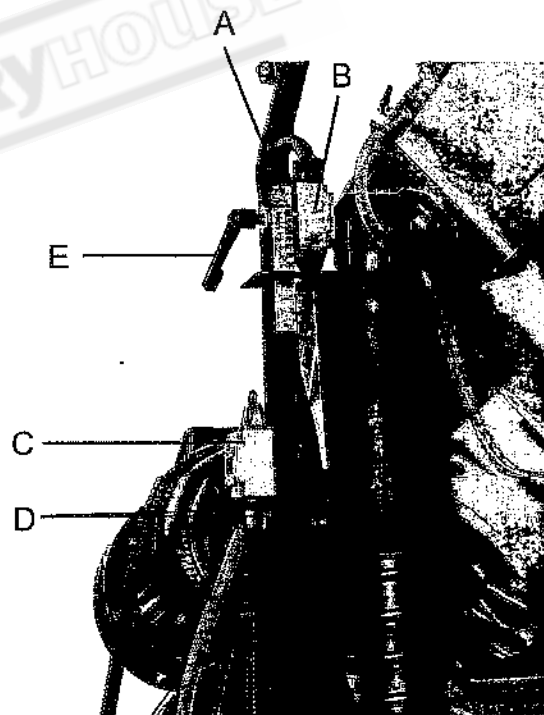
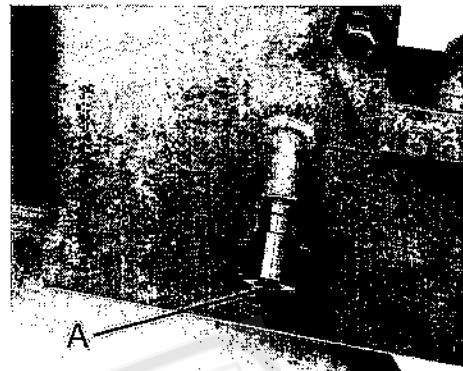

Fig. 12
Fig. 14
2. Release the limit switch (B - Fig. 12) by loosening the handle (E - Fig. 12).
3. According to the scale (A - Fig. 12) to set the desired measurement of the saw arm raising position.
4. Tighten the handle (E - Fig. 12).
5. If the saw does not stop automatically after a complete cut, the micro switch (C - Fig. 12) needs to be adjusted. Please refer to the section of by loosening the two screws (D - Fig.12) *Automatic Shut-off Adjustment*.
The dampener (fig. 14) functions to produce a finer cut by reducing the rate of down-bow when blade nears the table. The width of measurements of the blades between inch size and mm size are slightly different. This saw is equipped with inch size blade at the factory, if the user did not get the inch type but instead got a mm size blade, it is necessary to adjust the dampener by turning the cap screw (A - Fig. 14) clockwise about 1/4 revolution, and also adjust the limit switch (C-Fig. 12). Otherwise, the saw bow will not automatically rise up after completing the cut.
**Note:** If the bow or blade fails to stop, the limit switch (C - Fig. 12) must be raised.
1. Loosen 2 screws (D - Fig. 12).
3. Tighten 2 screws (D - Fig.12).